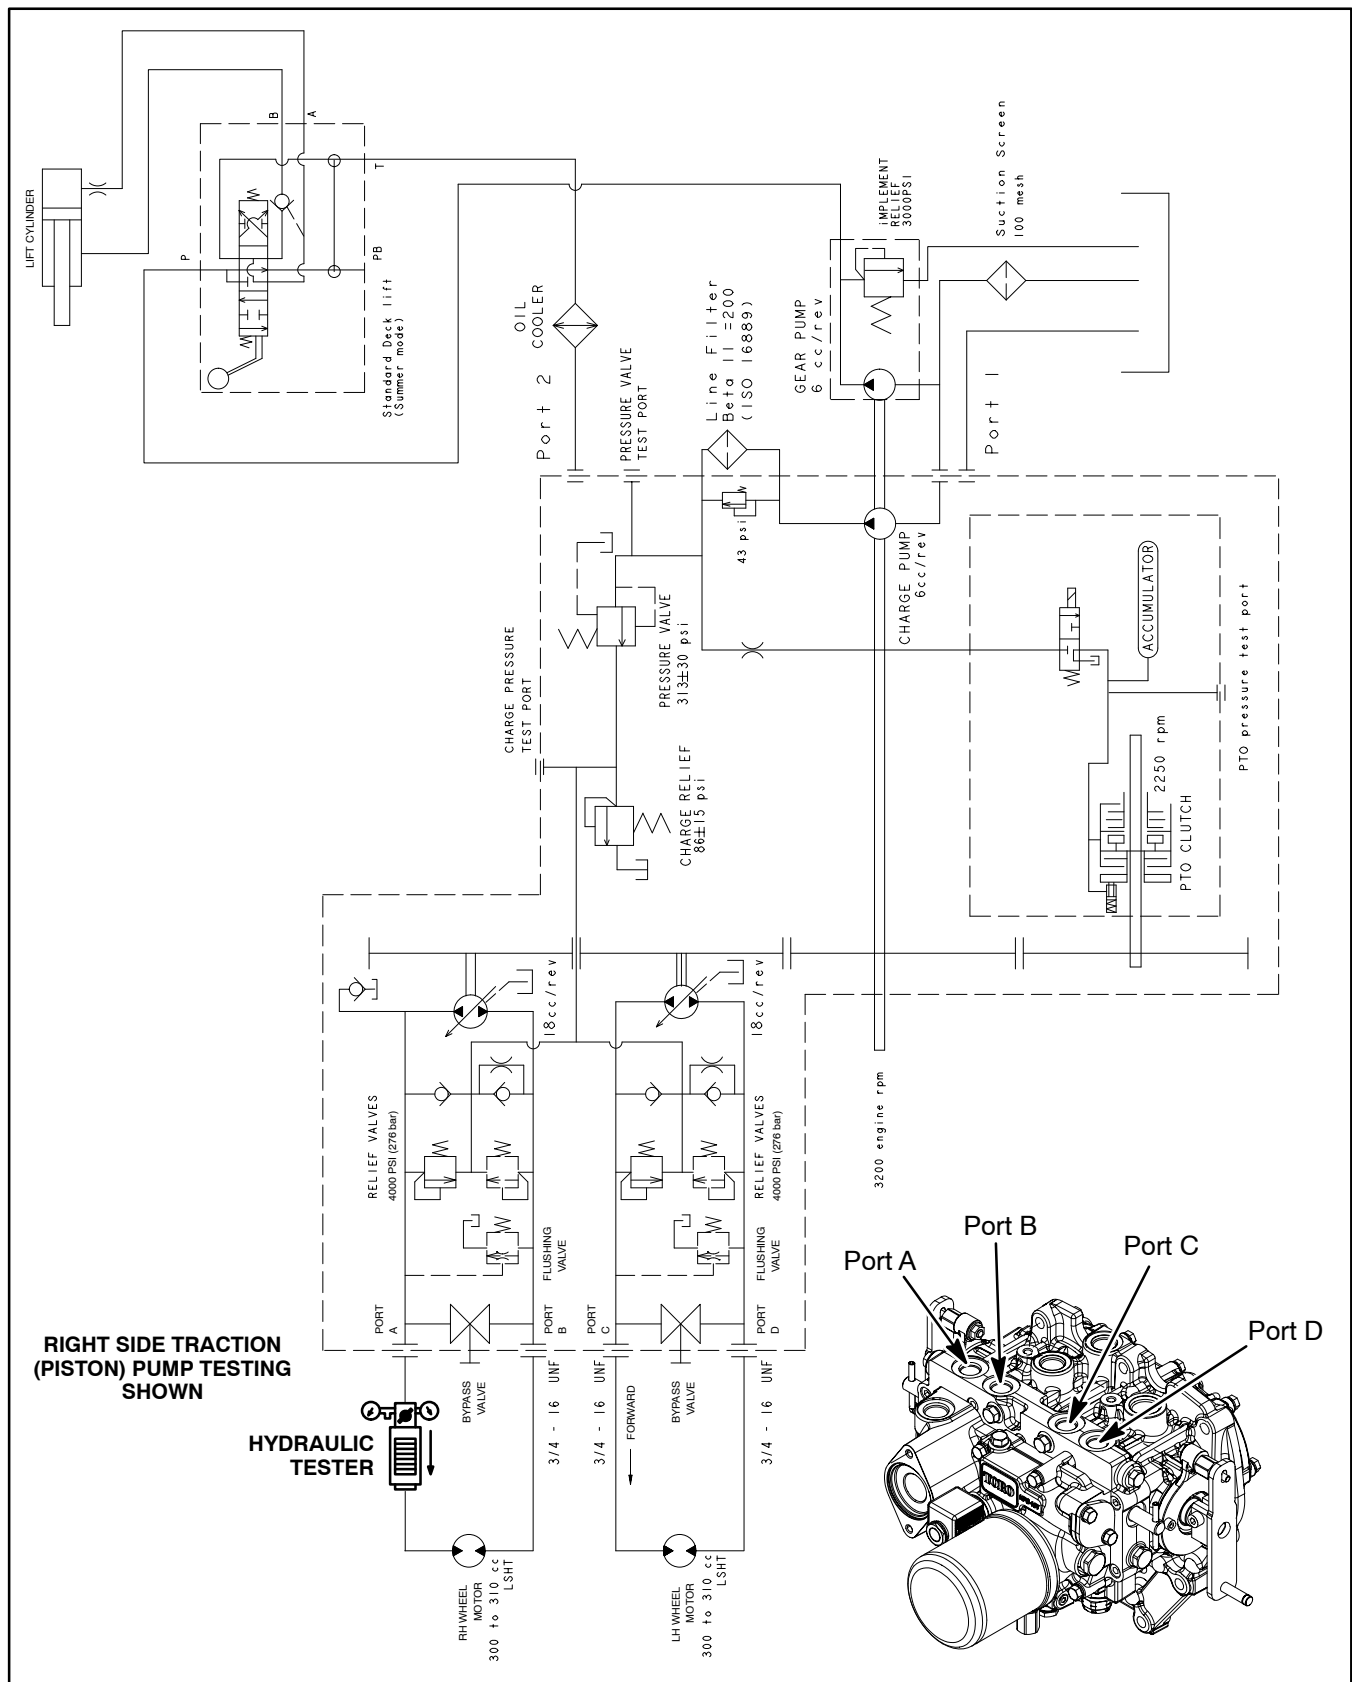

Figure 16
5. Thoroughly clean transmission area surrounding traction circuit hoses on top of transmission (Fig. 16). Determine which piston pump is to be tested.
6. Disconnect hydraulic hose from transmission pump outlet fitting for piston pump to be tested (Fig. 16):